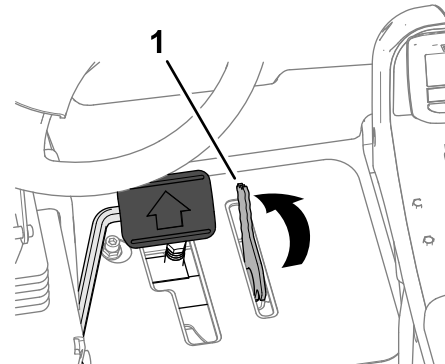

Figure 47
3. Use your foot to move the lever for the mow-speed limiter forward, to the Mow position (Figure 47).